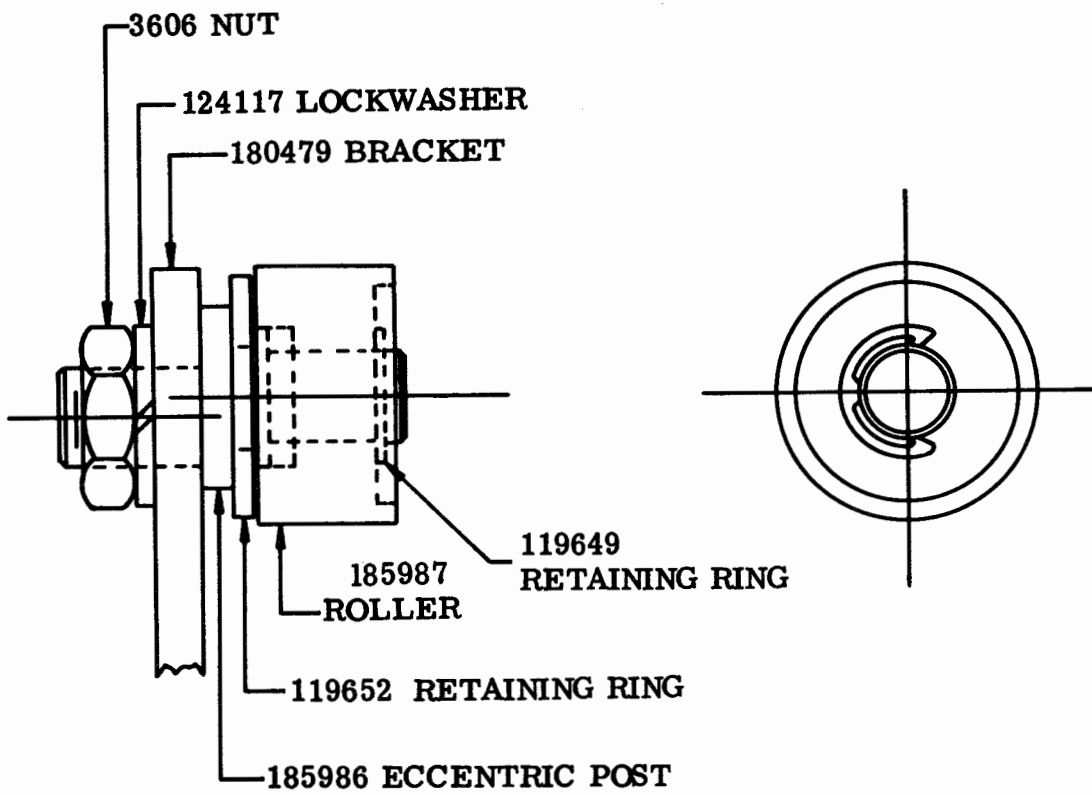

FIGURE 2
e. Place the 185987 roller on the 185986 eccentric post and assemble first the 119649 and then the 119652 retaining rings. Assemble this roller assembly to the carriage lower plate assembly using the 3606 nut and 124177 lock washer previously saved. (See Figure 2).